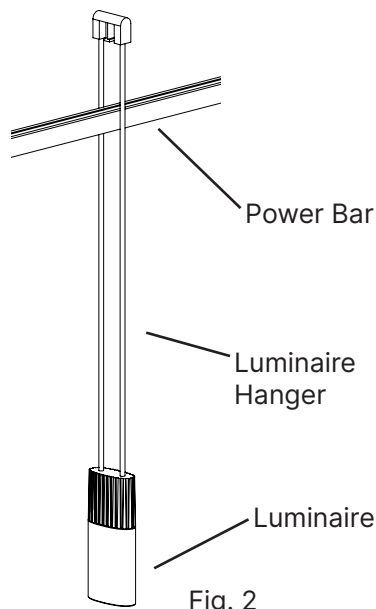

Fig. 2
1. Place the **Luminaire Hanger** over the **Power Bar** (Fig. 2).